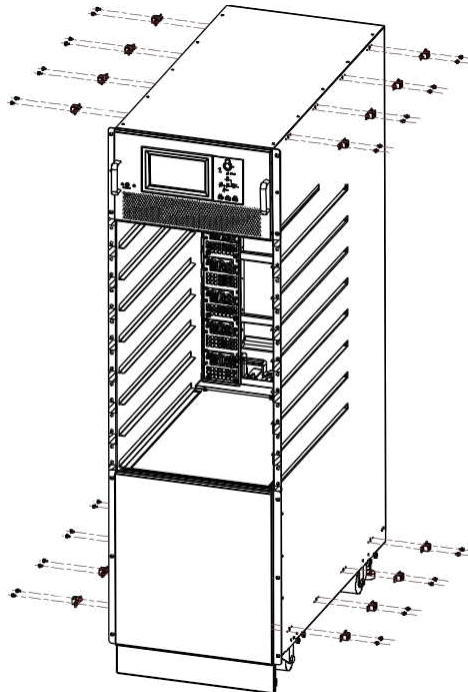

Figure 3-8 Remove bracket for cabinet side door
3. Remove bracket for cabinet side door, as Figure 3-8 shows;